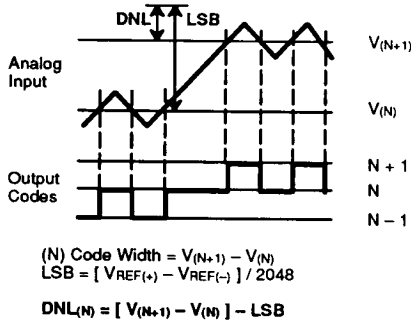
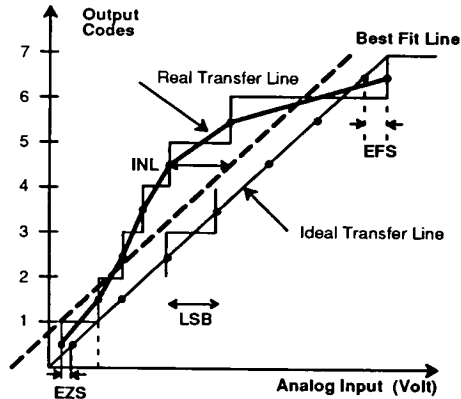

Figure 3. DNL Measurement On Production Tester
Figure 4. INL Error Calculation (Exaggerated for Visualization)
- Tester measures code transitions by dithering the voltage of the analog input (V_{IN}). The difference between the measured and the ideal code width (V_{REF}/2048) is the DNL error (Figure 3). The INL error is the maximum distance (in LSB's) from the best fit line to any transition voltage (Figure 4). Accuracy is a function of the sampling rate (Fs).
Figure 4. gives a visual definition of the INL error. The chart shows a 3 bit converter transfer curve with greatly exaggerated DNL errors to show the deviation of the real transfer curve from the ideal one.